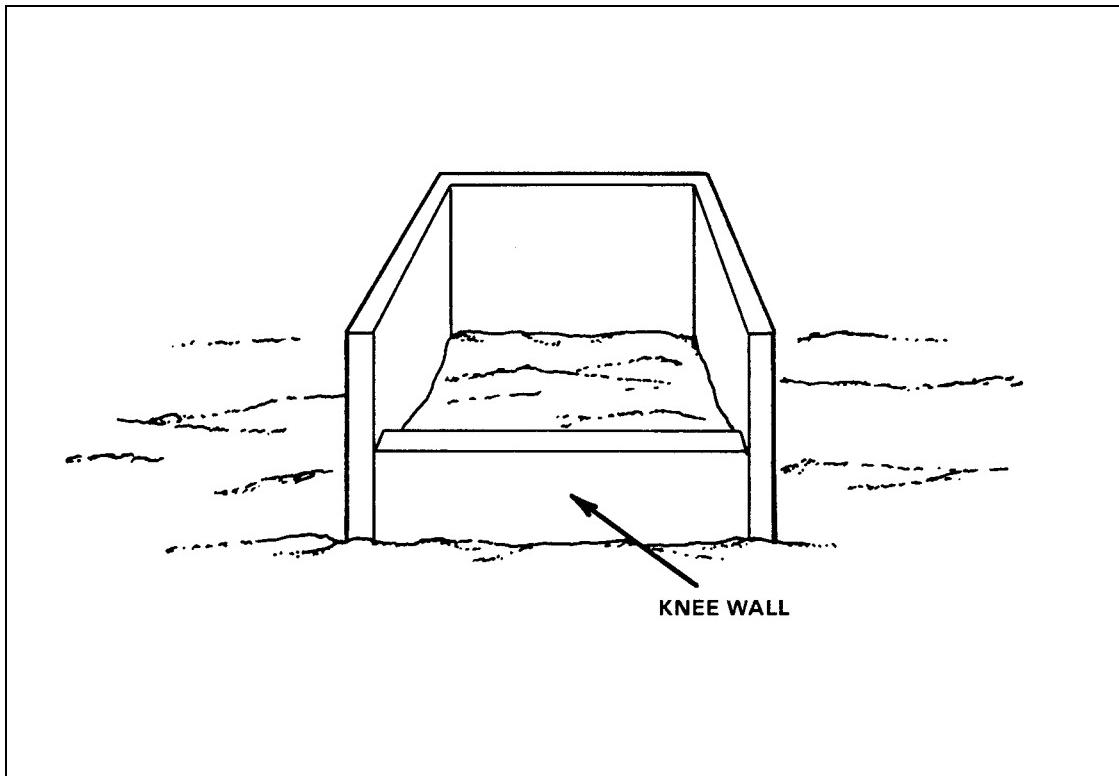

Figure B-1. Throwing pit with knee wall.
a. **Throwing Pit With Knee Wall.** It is recommended that all throwing pits for live grenade training have knee walls (Figure B-1). Knee walls provide the quickest and safest means of reacting to a dropped grenade. In most instances, the throwing pit safety NCO reacts to a dropped live grenade by yelling GRENADE to alert all other personnel in the area and by physically pushing the thrower over the knee wall, then falling on top of him. If a hand grenade is dropped over the knee wall, the throwing pit safety NCO yells GRENADE and forces the thrower to the ground inside the throwing pit.